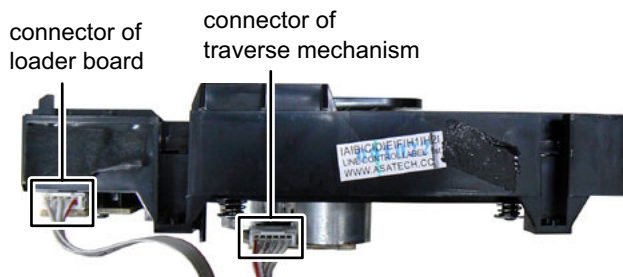

Fig.9
- (3) Disconnect the connector wire from CD board connected to connector of the Loader board. (See Fig.9)
- (4) Disconnect the connector wire from CD board connected to connector of Traverse mechanism. (See Fig.9)